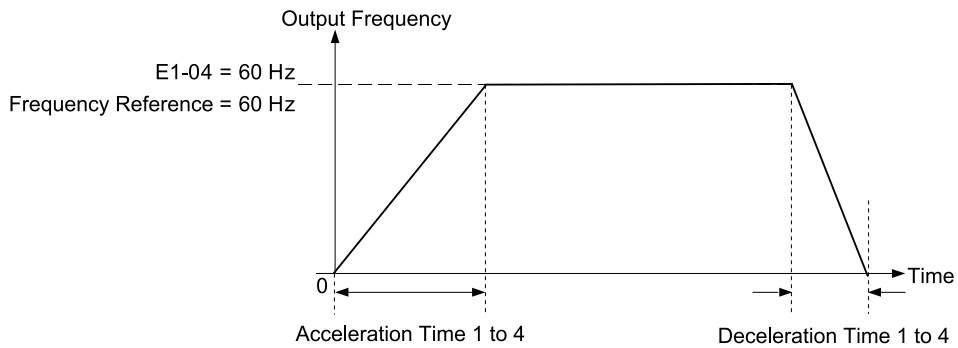
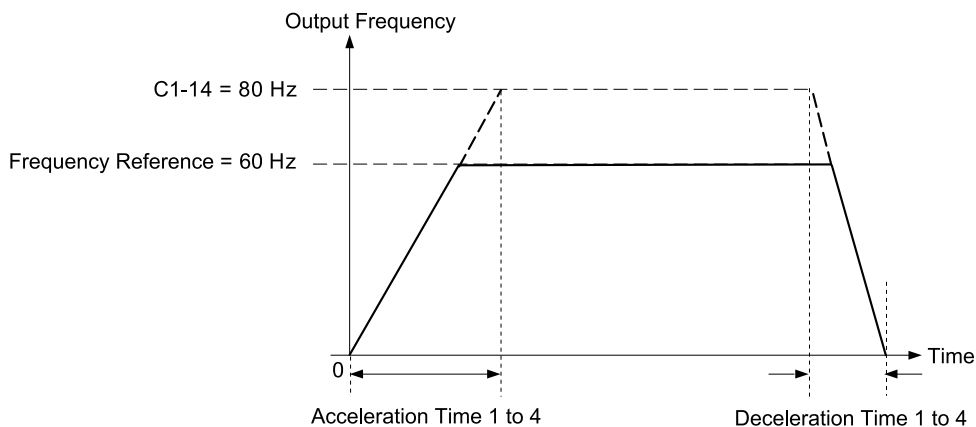

Figure 12.37 Example 1: Acceleration/Deceleration Rate (When C1-14 = 0 Hz, E1-04 = 60 Hz, and the Frequency Reference is 60 Hz)
Figure 12.39 Example 3: Acceleration/Deceleration Rate (When C1-14 = 80 Hz, E1-04 = 60 Hz, and the Frequency Reference is 60 Hz)
- Figure 12.37 to Figure 12.39 show the accel/decel times when C2-01 to C2-04 [S-Curve Times @ Start/End of Accel/Decel] = 0.00 s.